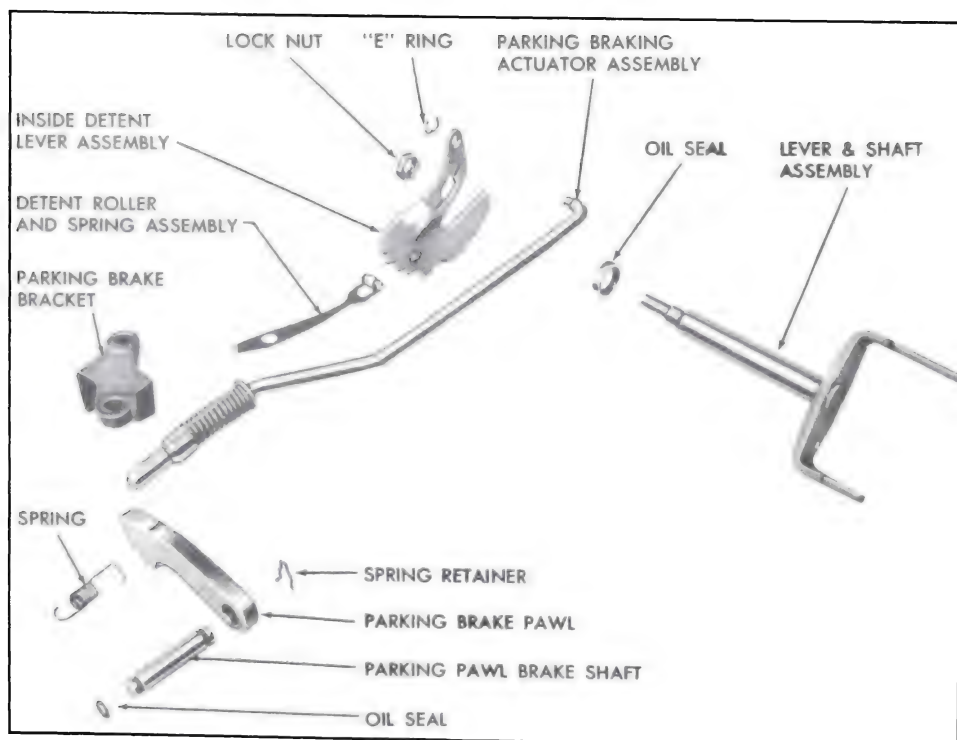

Figure 5-671
1. Inspect the parking actuator rod for cracks, damaged snap ring groove or broken spring retainer lugs. See Figure 5-671.